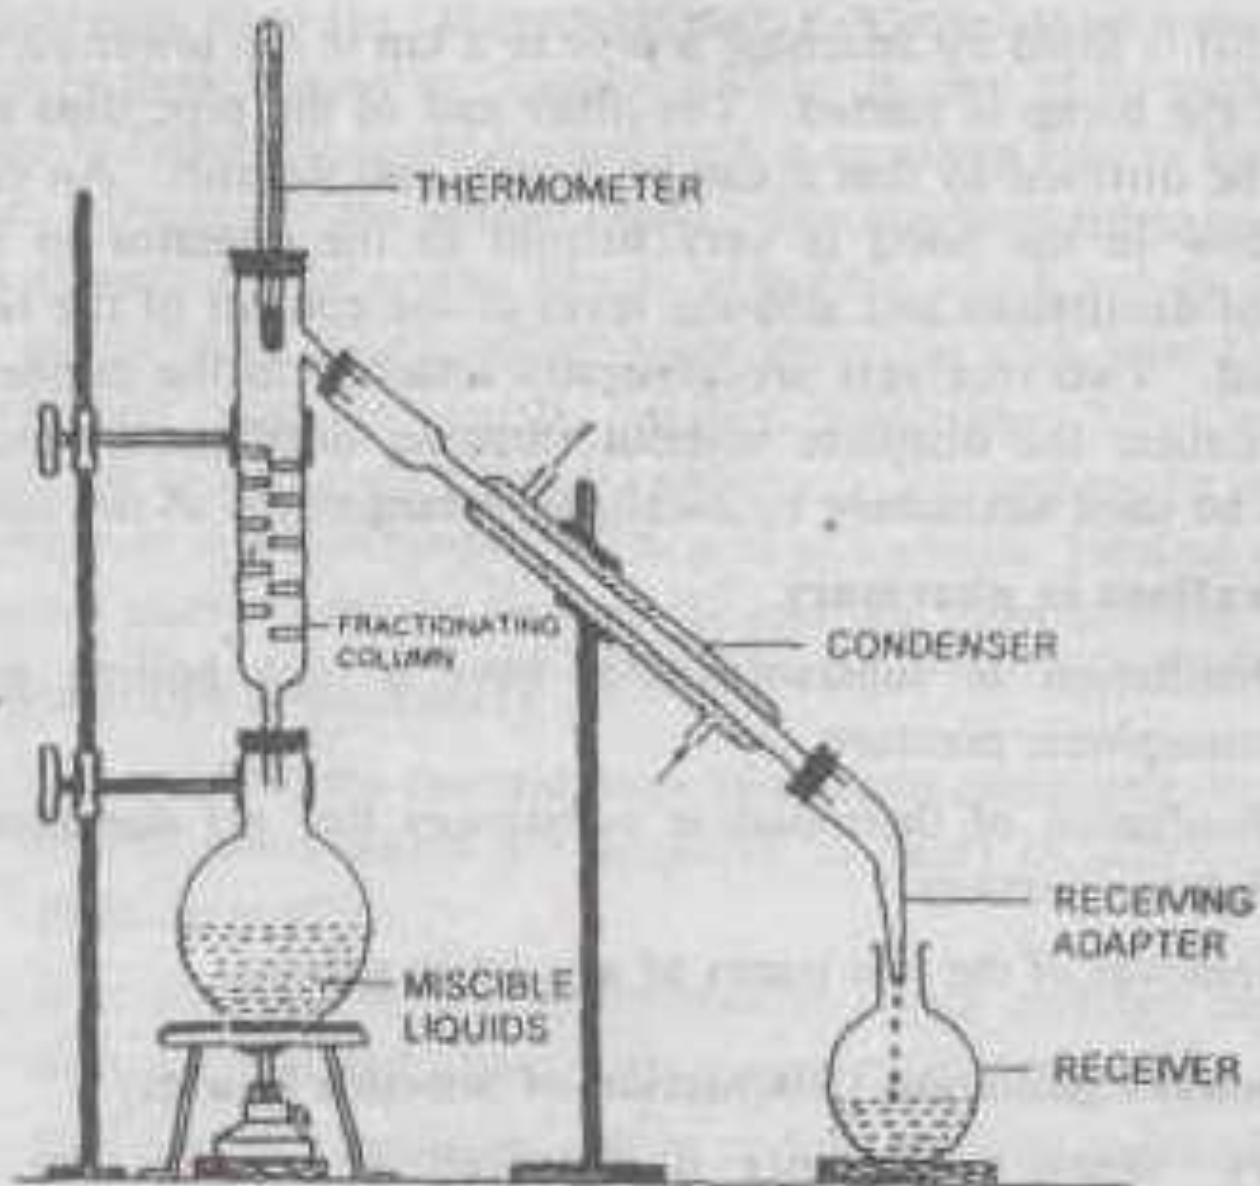

Fig.11-4 Fractional distillation (on laboratory scale)
- The apparatus used for laboratory scale is as shown in Fig. 11-4. Fractionating column is fitted between the distillation flask and the condenser.